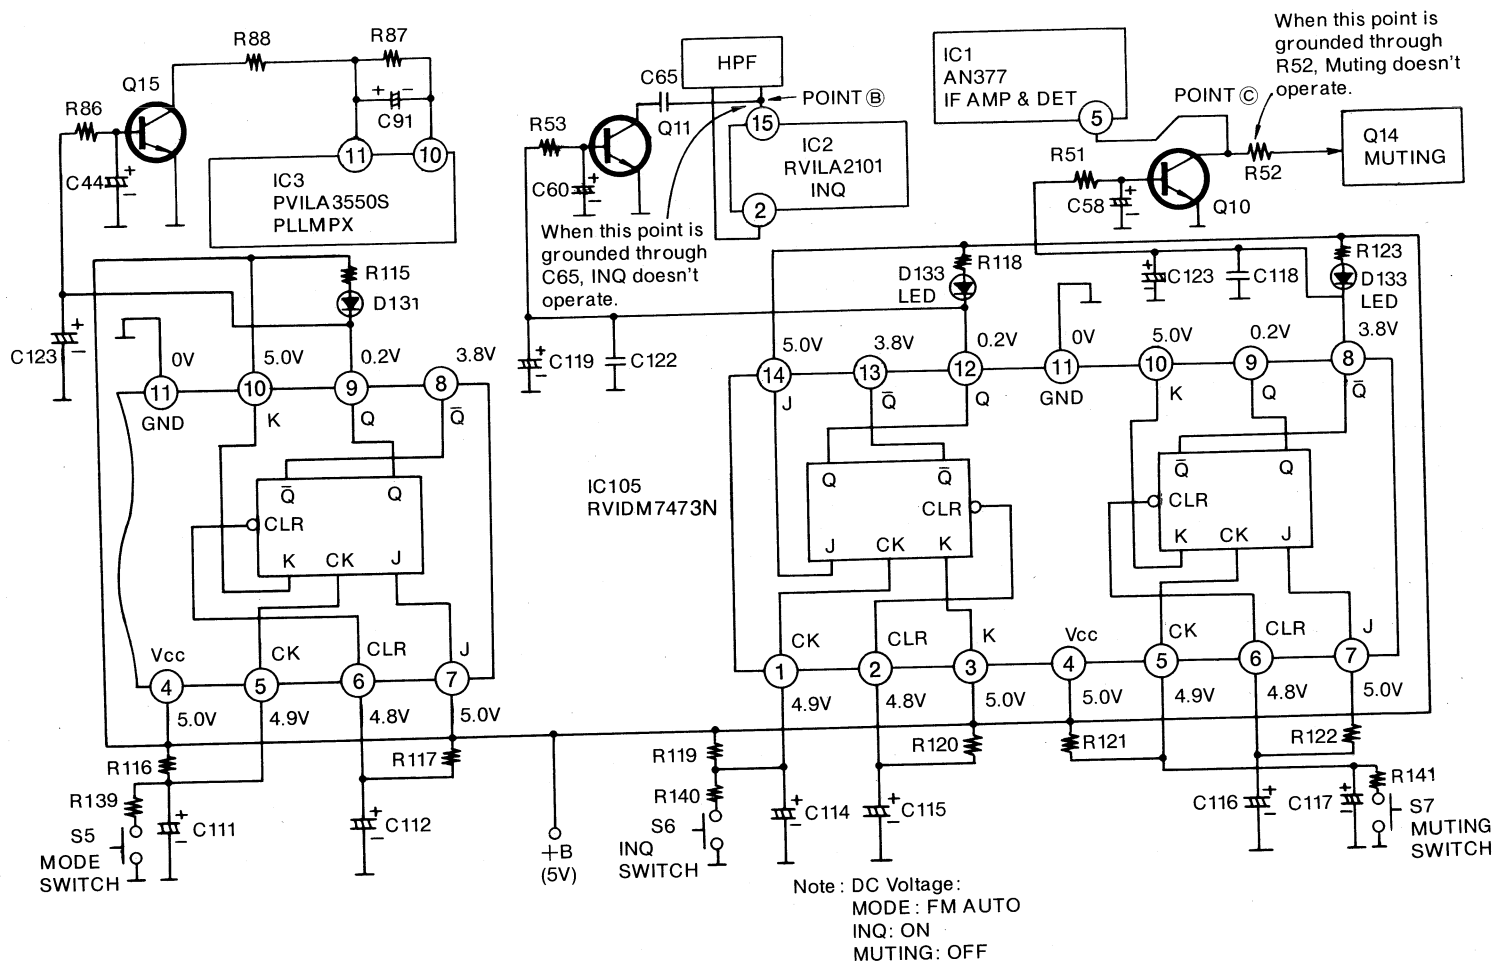

Fig. 18
4. When Q11 switches ON, and a noise pulse appears at point Ⓑ Fig 18, the pulse is grounded through C65. In this condition, IC2 will not operate the INQ. In other words, the INQ changes to the OFF condition. (Refer to the operation explanation of the INQ.)